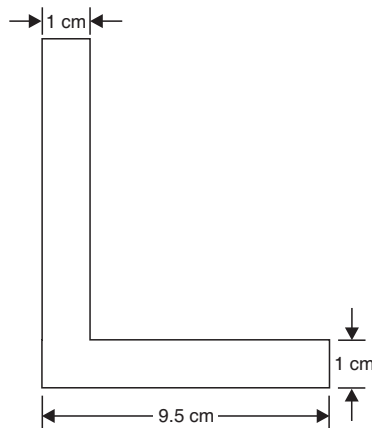

Fig. 5.32
1. Find  $I_{xx}$  and  $I_{yy}$  for the unequal angle section  $12.5 \times 9.5 \times 1$  cm shown in Fig. 5.32.